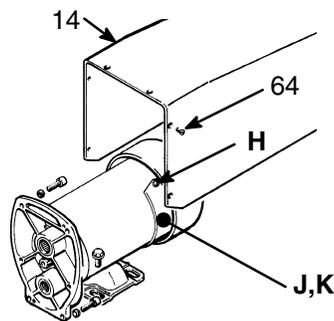

Fig 25–1
NOTE: Replace the brushes when they have worn to less than 1/2 in. See STEP 1, Fig 25–3. Note that the brushes wear differently on each side of the motor, so check them both. Brush Repair Kit 220–853 is available.
1. Remove the motor cover (14) and screws (64). Remove the screws (H), inspection covers (J) and gaskets (K) on each side of the motor. See Fig 25–1.
2. Push in the spring clip to release its hooks from the brush holder. Pull out the spring clip. See Fig 25–2.
3. *Loosen* the brush lead terminal screw. Pull the brush lead away, being careful to ensure the motor lead terminal remains in place. Remove and discard the brush and spring. See Fig 25–3.